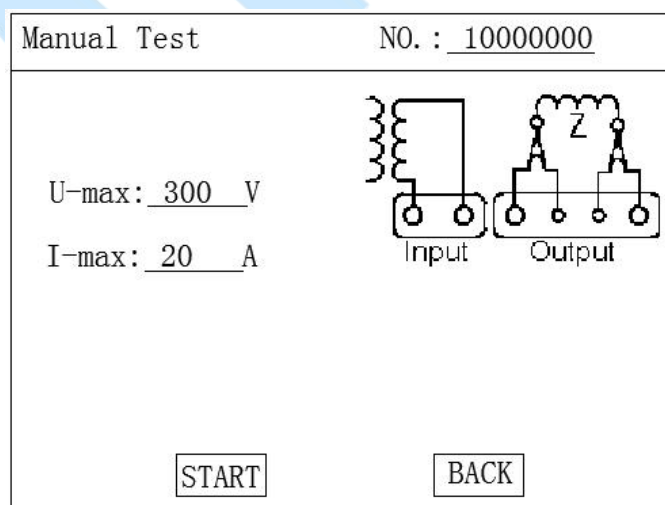

Figure 7 Manual Test Parameter Setup Interface
- 1) The working power of the instrument is switched on and the power switch is turned on. After the instrument is reset, the system will enter the interface as shown in Figure 1. You can press the “↑” and “↓” keys to select “Manual Test” and press “OK” to enter the “Manual Test Parameter Setup” interface as shown in Figure 7.。